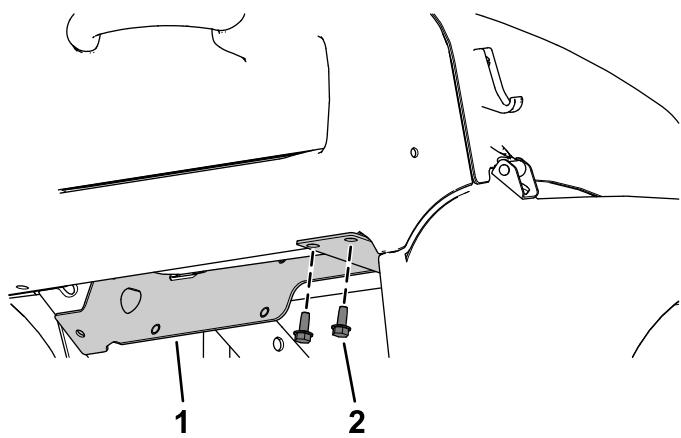

Figure 25
B. Secure the right side of the heater bracket to the dash using the previously removed 2 screws (5/16 x 3/4 inch) as shown in Figure 25.